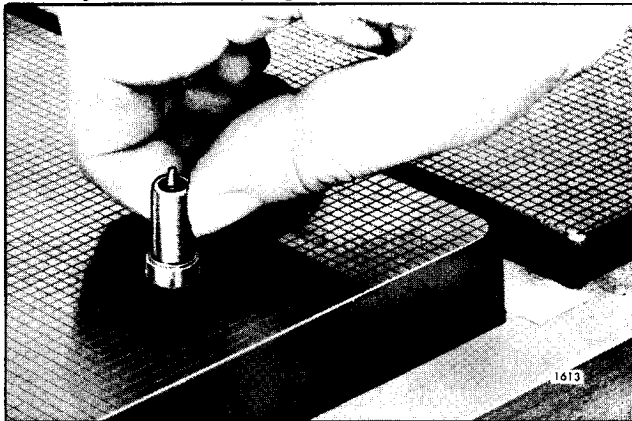

Fig. 28 - Lapping Spray Tip on Lapping Blocks J 22090
3. Place the part to be lapped flat on the block as shown in Fig. 28 and, using a figure eight motion, move it back and forth across the block. Do not press on the part, but use just enough pressure to keep the part flat on the block. It is important that the part be kept flat on the block at all times.